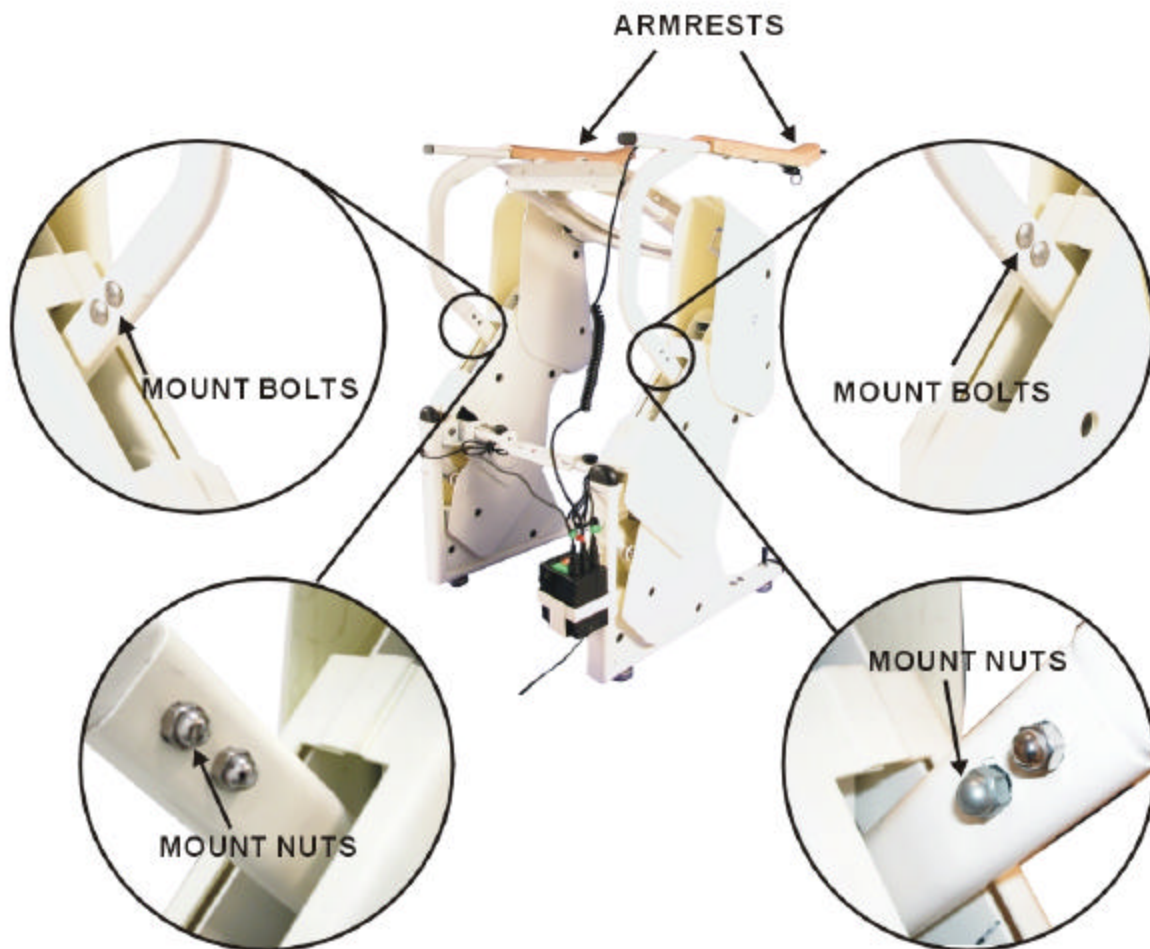

Figure M-3. Armrest Mounting
- c. Remove the armrest mount nuts and bolts from the two mount boltholes of the armrest as shown in Figure M-3.